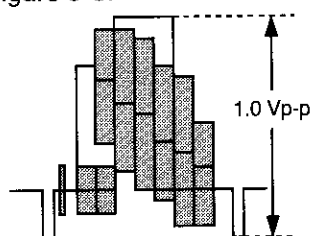

Figure 5-3.
6. Look at the monitor screen and adjust the (+) or (-) TRACKING buttons so that the position of noise come following Figure5-3(a) and(b).
3. Make sure that the E-E signal amplitude is 1.0Vp-p as shown in Figure 5-3.